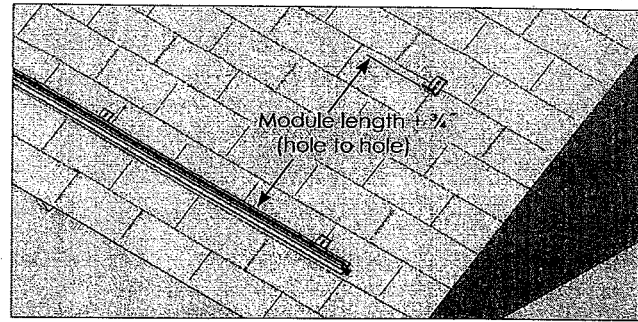

Figure 10. L-foot separation. See the note on module length in the caption of Figure 4 (p. 9).
**With L-feet only:** Position the second row of L-feet in accordance with Figure 10. Ensure that you measure between the lower bolt hole centers of each row of L-feet. Install the second row of L-feet in the same manner and orientation as the first row, but leave the lag screws a half turn loose. Be aware of the set-up time of your sealant; the L-feet will not be fully tightened until Step. 4.